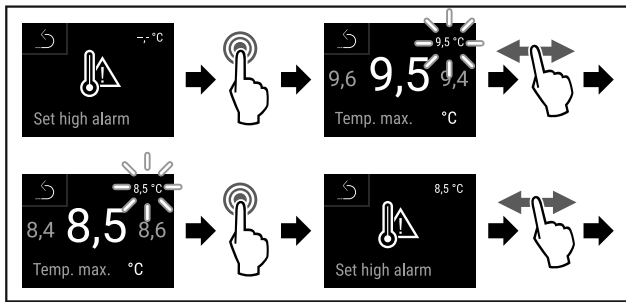

Fig. 141
- ▶ Complete steps (see Fig. 141).